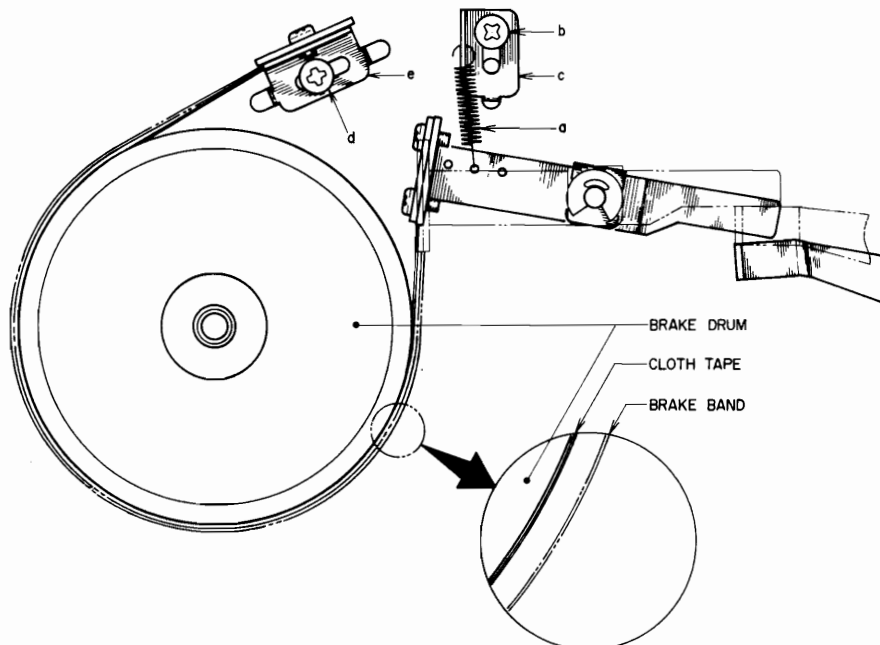

Fig. 5 Brake Tension Adjustment
Brake tension adjustment can be made as follows: (Refer to Fig. 5)
- 4) Only the left side is shown in Fig. 5, but the right side must be adjusted in the same way.
**NOTE:** In making brake tension adjustments, at all modes except stop mode, confirm that the brake band completely separates from the cloth tape on the brake drum. (Refer to Fig. 5.)